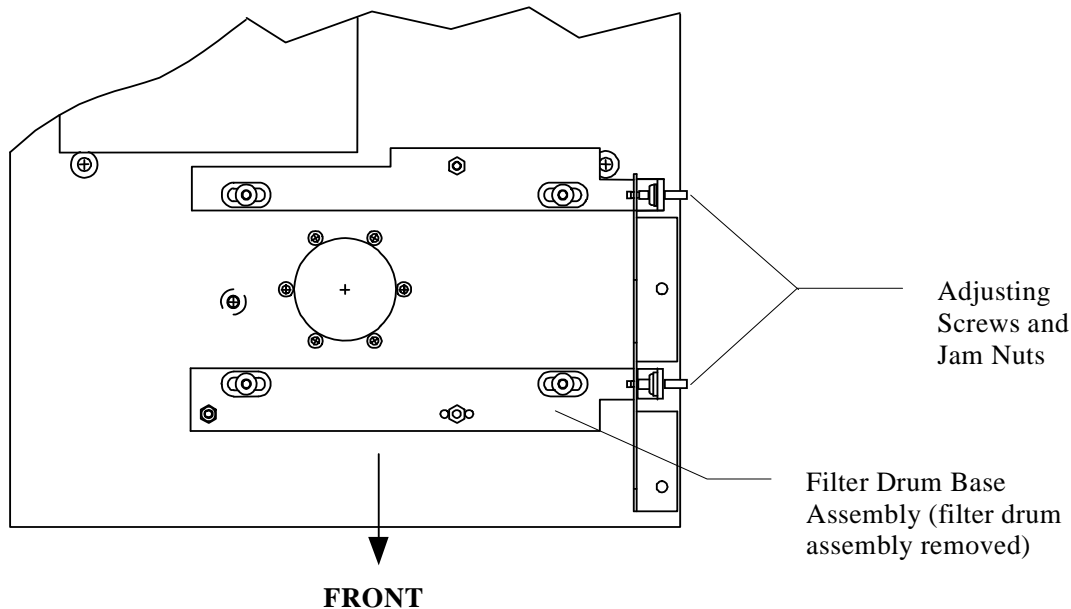

Figure 4-6. Filter Drum Adjustments - Top View
2. At the Filter Drum assembly, loosen the jam nuts and insert Allen wrenches (3/32") in both Filter Drum Allen alignment screws. (Figure 4-6 above shows the locations of alignment screws and jam nuts.) Ensure that the Filter Drum is running.